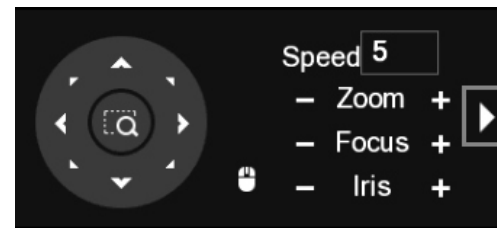

Figure 4-5
Step 2 Click **PTZ**. The PTZ setting interface is displayed. See Figure 4-5.